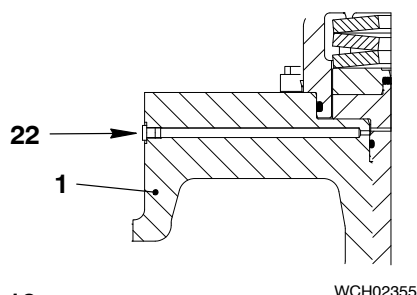

Fig. 10
- 1) Make sure that the oil bore to the valve guide (22, Fig. 10) is clear.